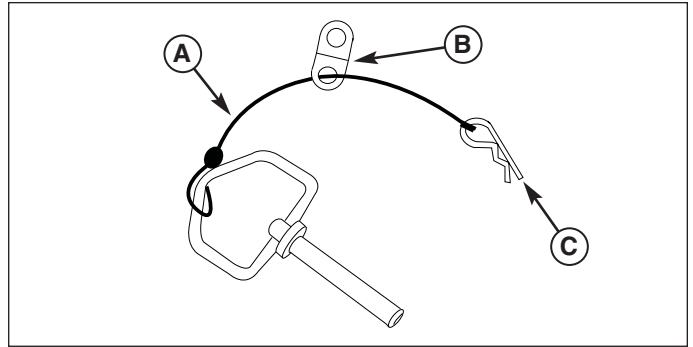

Figure 6. Assemble the Retainer Pins
2. Remove the clevis pin (C, Figure 6) from the lanyard (A).
3. Install the lanyard anchor (B) onto the lanyard as shown in Figure 6.